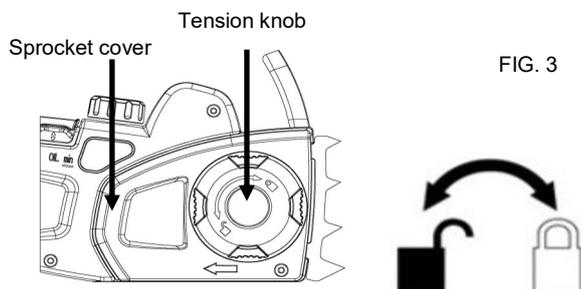

FIG. 3
3. Remove the sprocket cover. (Fig. 3)